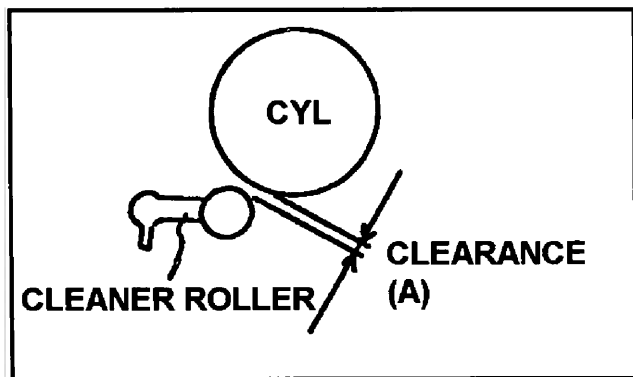

Fig.M22
1. Observe the clearance (A) between Cleaner Roller and Cylinder Unit as shown in Figure M22. And make sure that it is in between 1.0 and 1.2mm.
2. If not, loosen the 2 screws (B) and adjust the position of Cleaner Base Plate by moving to arrow direction (A⇌A) with the Eccentric Driver so that the clearance (A) is within the specification. And tighten the 2 screws (B).